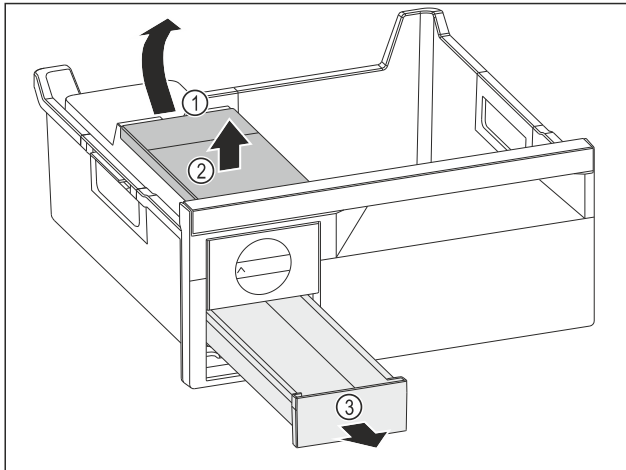

Fig. 73
- ▶ Removing the water tank: Lift the water tank by the recess Fig. 73 (1).
- ▶ Remove the water tank Fig. 73 (2) upwards.
- ▶ Remove the ice cube drawer Fig. 73 (3) to the front.